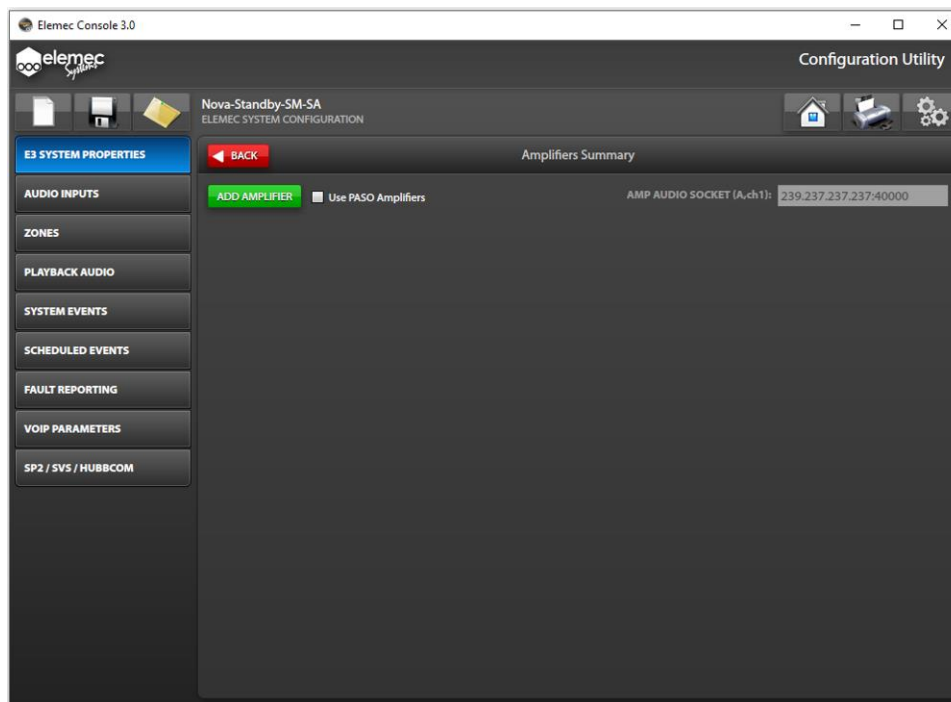

Figure 21. Amplifiers Summary
1. Click the **AMPLIFIERS** button on the **SYSTEM PROPERTIES** screen to open the **AMPLIFIERS SUMMARY** screen (see Figure 21). The summary screen displays all amplifiers in the system.